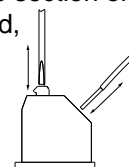

fig.1
- Tighten the cable gland cap about one turn (fig.1)